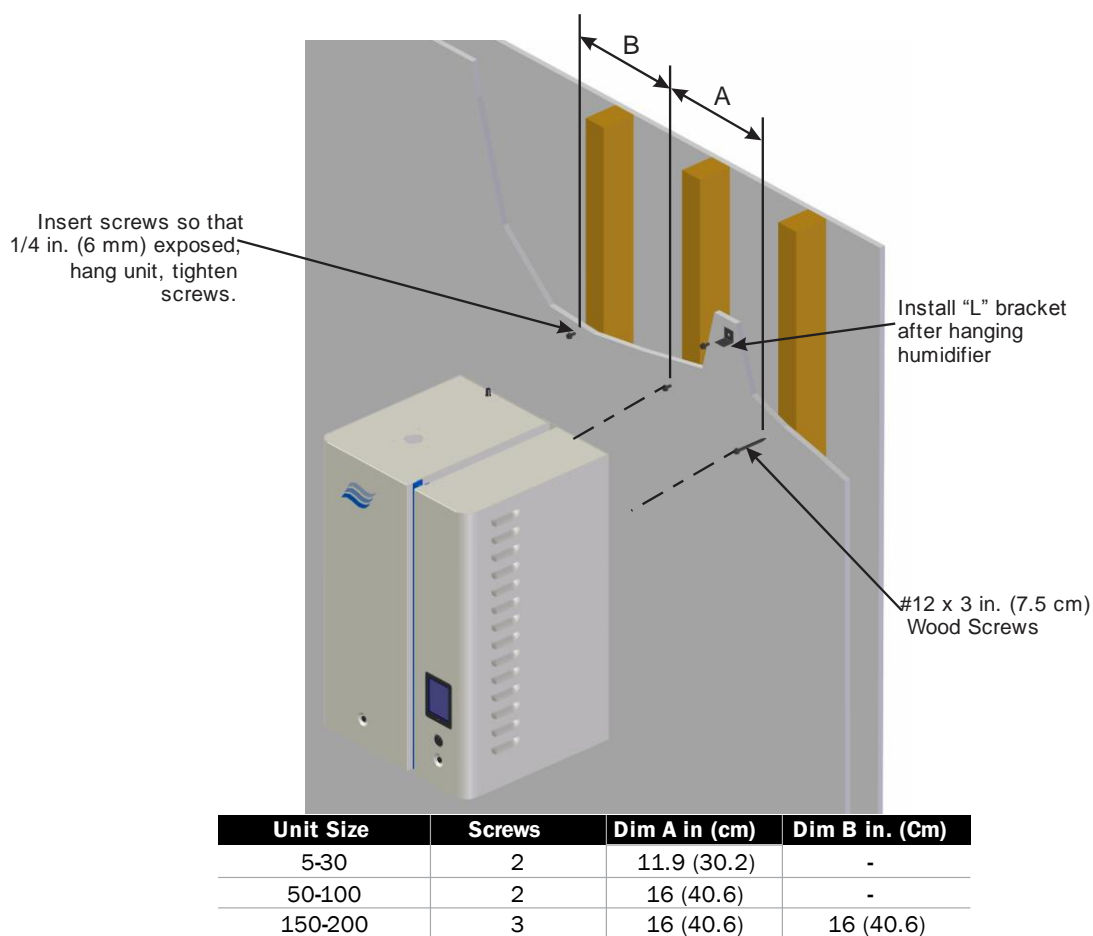

Figure 6: Mounting with Keyholes
- 5 Place “L” Shaped brackets on top of the unit, with holes inline with the studs. Using the appropriate sized wood screw, fasten the “L” brackets to the studs, securing the unit from any upward motion. See Figure 6: Mounting with Keyholes.